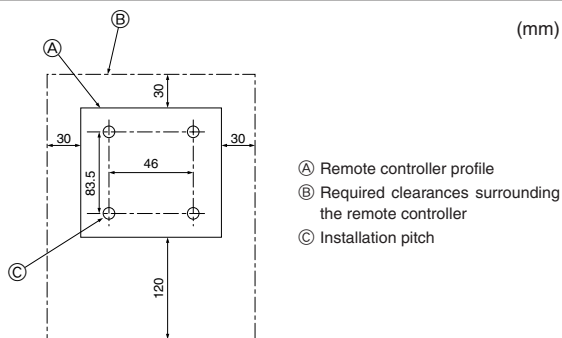

Fig. 5-2
1) Installing procedures (Fig. 5-2)